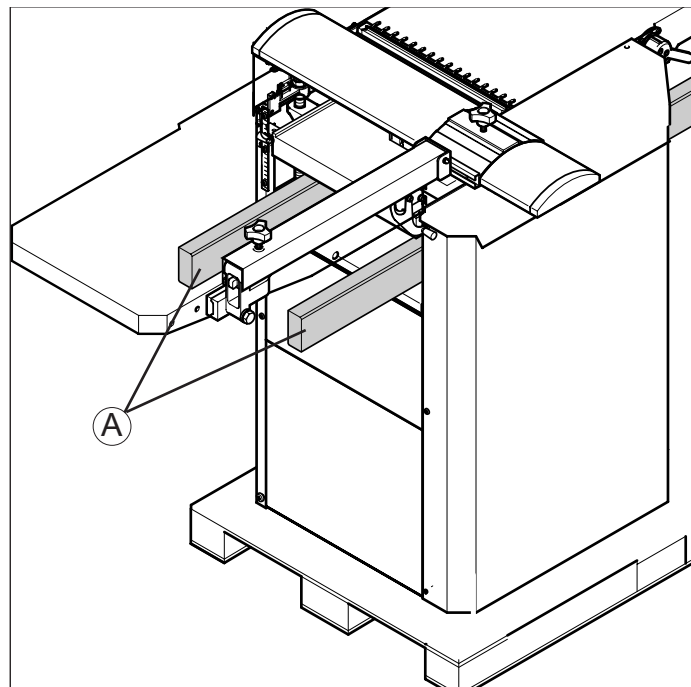

FIG. 1
- by several persons. Here, the machine is carried by means of carrying straps or two battens (A, Fig.1) placed underneath the thicknesser bed.